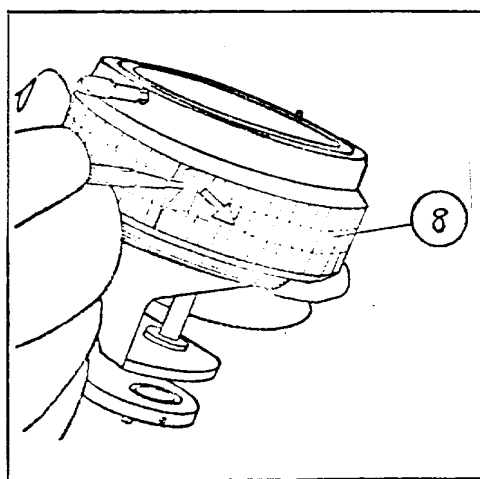

Fig. 41
- 3) Peel off the knurled rubber ring (8) using a screwdriver or the like caring not to break it (Fig. 41).